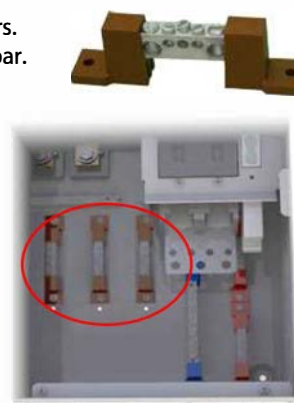
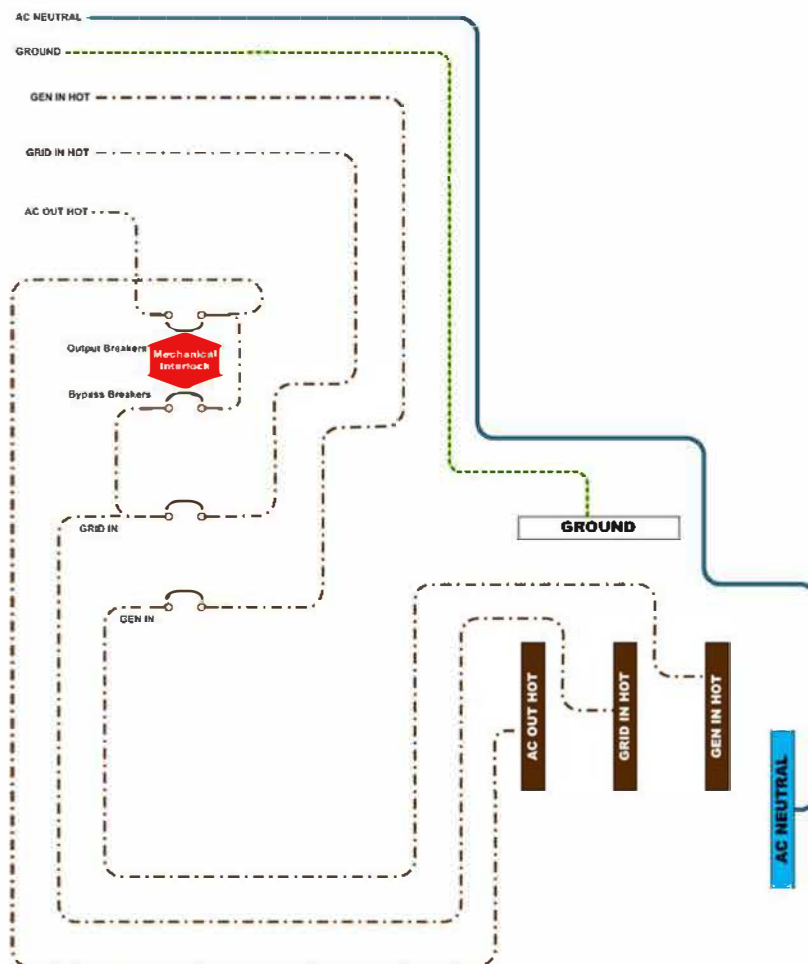

Figure 2 Bus Bar Positions
Figure 5 Basic AC Wiring
3. Apply the correct label from the label set to the chassis near each bus bar for identification purposes. Figure 2 shows the standard locations for these bus bars. Figure 5 on page 8 shows the intended label positions.
The GS-IOB-230VAC comes with six brown and one blue wire that are labeled according to their intended electrical connection. It also comes with an unlabeled green wire and two unlabeled short brown wires. If the preceding steps are followed, as well as the drawing in Figure 5, these wires will have sufficient length to make the intended connections.
2. For each of the six wires, install the wire's ring terminal on the appropriate terminal post for each circuit breaker according to Figure 5. Typically each post is equipped with two identical star washers. The ring terminal on the wire should be installed between these star
3. Install the two short wires between the input, output, and bypass circuit breakers as shown in Figure 5.
6. Connect the brown wires from each circuit breaker to the appropriate bus bar as shown in Figure 5.